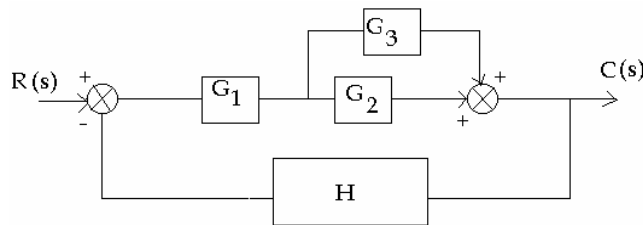

Fig.3
Q.7 The transfer function of the block diagram of Fig.3 is _____.